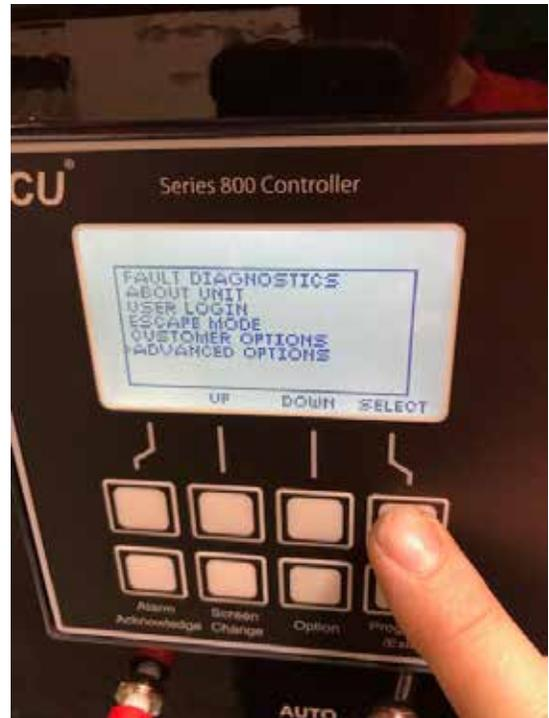

Figure 17. Advanced Options
11. Scroll down the list and select **ADVANCED OPTIONS**, then press the **SELECT** button (Figure 17).